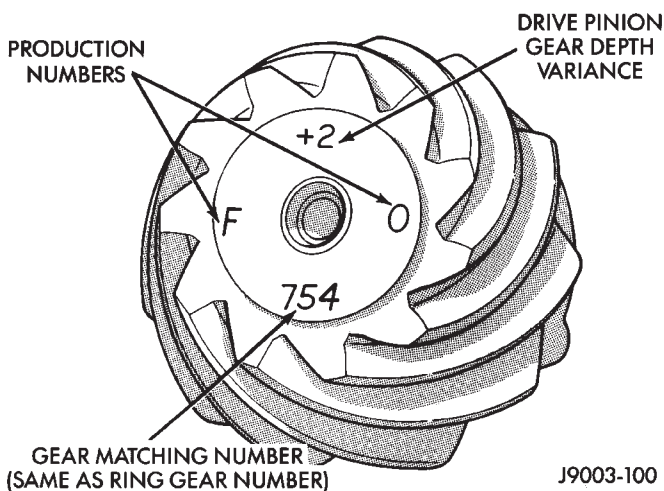

Fig. 64 Pinion Gear ID Numbers
Ring and pinion gears are supplied as matched sets only. The identifying numbers for the ring and pinion gear are etched into the face of each gear (Fig. 64). A plus (+) number, minus (-) number or zero (0) is etched into the face of the pinion gear. This number is the amount (in thousandths of an inch) the depth varies from the standard depth setting of a pinion etched with a (0). The standard setting from the center line of the ring gear to the back face of the pinion is 96.850 mm (3.813 in.). The standard depth provides the best teeth contact pattern. Refer to Backlash and Contact Pattern Analysis Paragraph in this section for additional information.
(9) Select a shim equal to the dial indicator reading plus the drive pinion gear depth variance number etched in the face of the pinion gear (Fig. 64) using the opposite sign on the variance number. For example, if the depth variance is -2, add +0.002 in. to the dial indicator reading.